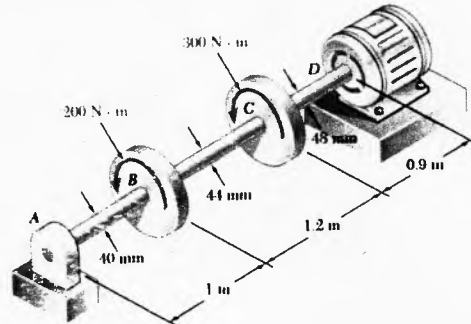

Figure 6
- c. The electric motor exerts a 500 N.m-torque on the aluminum shaft ABCD when it is rotating at a constant speed. Knowing that  $G = 27 \text{ GPa}$  and that the torques exerted on pulleys B and C are as shown in figure 6, determine the angle of twist between (a) B and C, (b) B and D. [5]